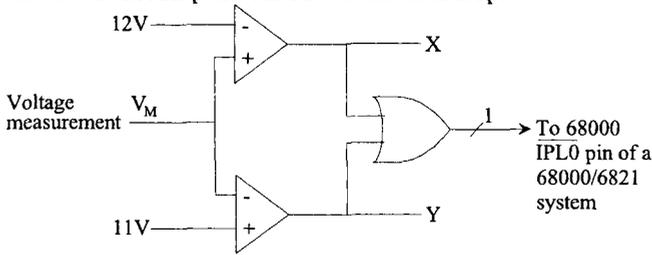

FIGURE P10.38
- (a) Draw a neat block diagram showing the 68000/6821 microcomputer and the connections to the diagram in Figure P10.38 to ports.